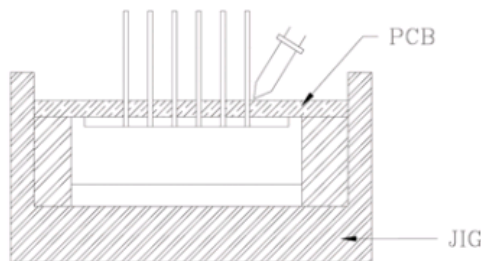

Fig.2
2) When soldering wire to the lead, work with a jig (See Fig.2) to avoid stressing the package.